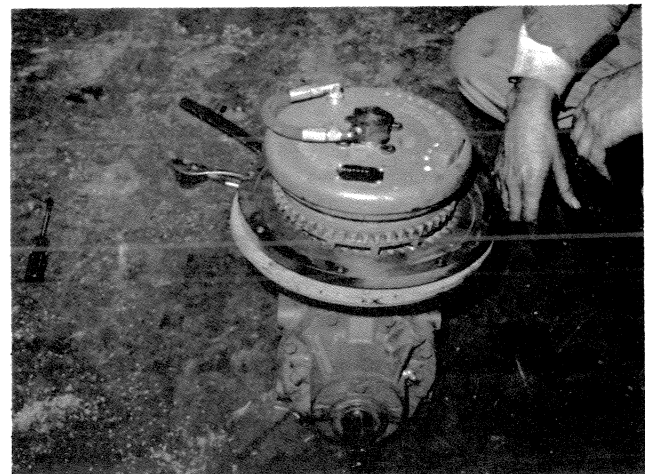

Figure 4. Clutch-Gearbox Group
- (5) Lift the clutch-gearbox group from the engine, and place on a suitable work surface, with the clutch assembly up (Fig. 4).